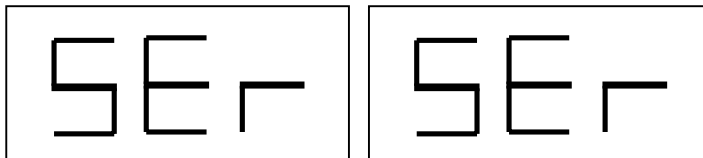

Fig. F9.1 SERVICE mode enabled
2. Press [F+P3] . The machine enters the SERVICE mode and will display the Ser Ser messages. See figure F9.1.
- To exit the SERVICE mode, you must first exit any Menus and test programs and return to the messages display shown in Figure F9.1;